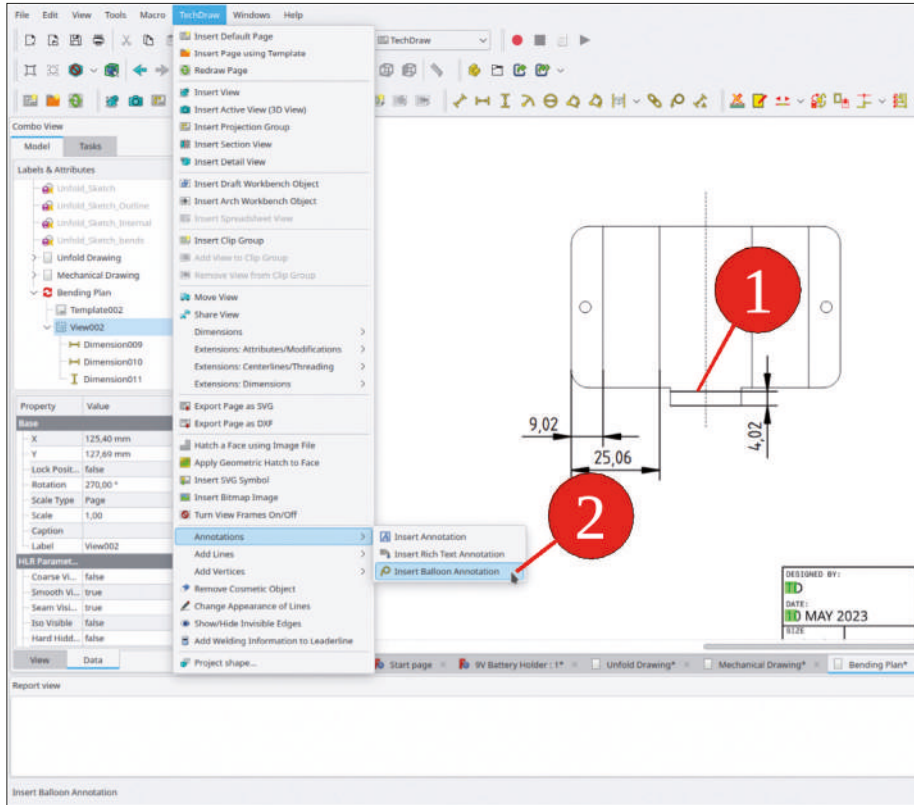

Figure 5-47
6. With the bending plan, the succession of the different bends is important, because some of them, when done, might make others inaccessible for the bending tool. Anticipating this in advance may save some frustrations later. It is already evident that the small stop which points to the bottom is not easy to bend after the large flaps on the sides have been folded. To give the small bend on the bottom the highest priority, mark it and add an annotation by selecting 'TechDraw | Annotations | Add Balloon Annotation' (Figure 5-47). A task window opens. Insert for the text the order ('1') and the bending direction('d').